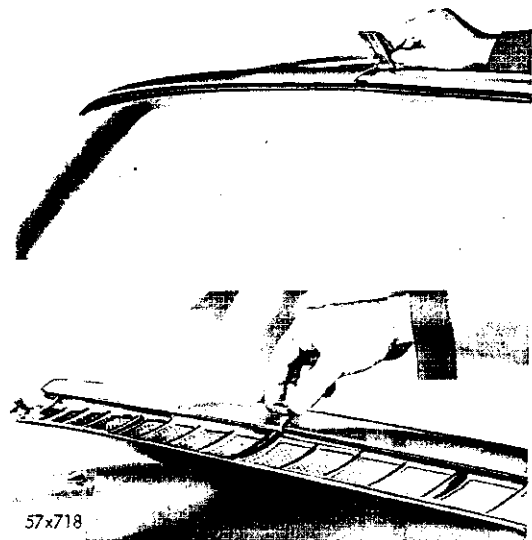

Fig. 28—Removing the Upper and Lower Moulding Clips (Imperial Models)
(13) Seal the rear edge of the weatherstrip all around the glass opening.
(14) Align and install the upper windshield chrome moulding over the top of the windshield; on Imperial models only, make sure to exert sufficient pressure on the center of the moulding to force moulding all the way down on the clips (Fig. 28).
(15) Align and install the lower center chrome moulding.
(16) Install the lower cowl side mountings and attaching screws. Be sure the lower cowl side mouldings overlap the lower moulding to insure proper installation.
(17) Slide the door hinge pillar ("A" post) lower side mouldings into position with the lower end overlapping the cowl moulding upper end of side moulding into position overlapping the upper moulding. Install the screws and tighten securely.
(18) On Imperial models, install the upper and lower center clips (Fig. 28).
(19) Install the windshield wiper arms and blades, then tighten the windshield garnish moulding attaching screws securely.
(20) Clean the windshield, using a suitable solvent, then test for water leaks.